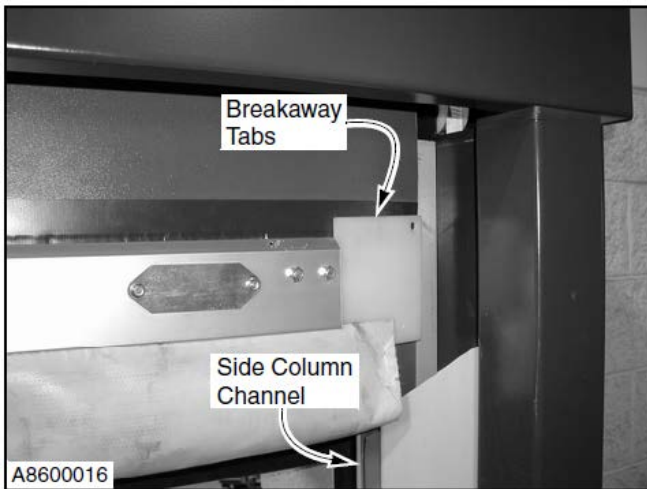

Figure 32
3. The door panel's breakaway tabs will roll upward above the side columns' channel. (See Figure 32.)